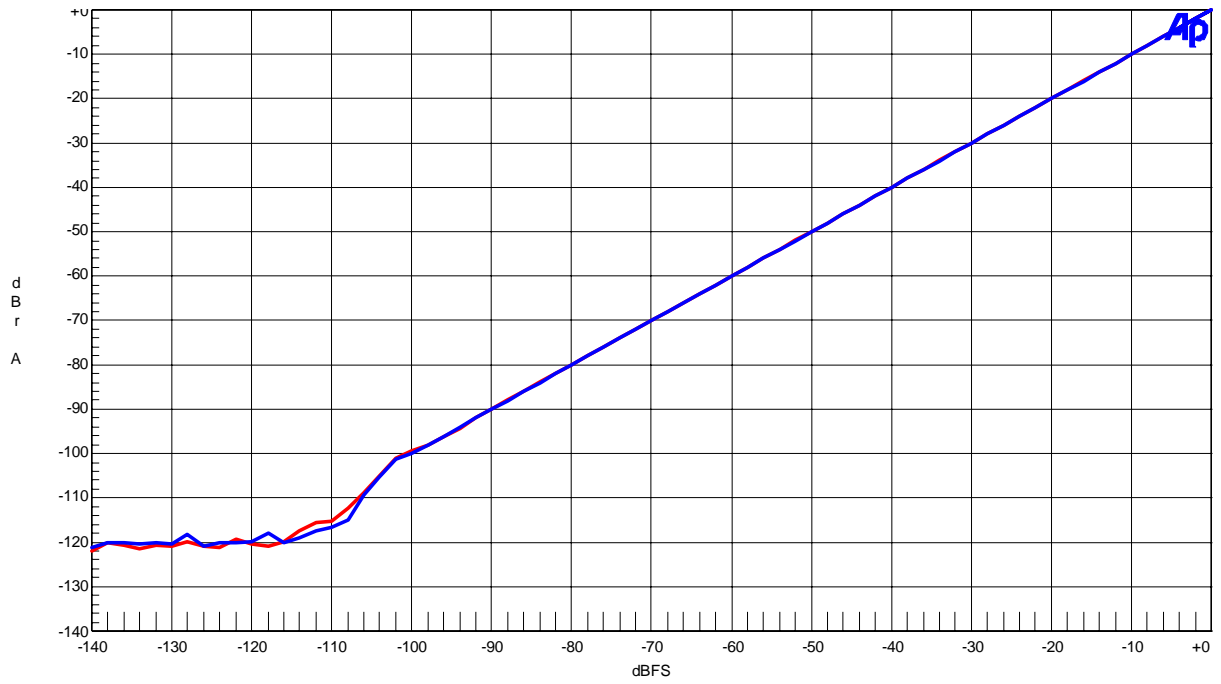

Figure 14. Linearity (Input Frequency=1kHz)
- Figure 14. Linearity (Input Frequency =1kHz)